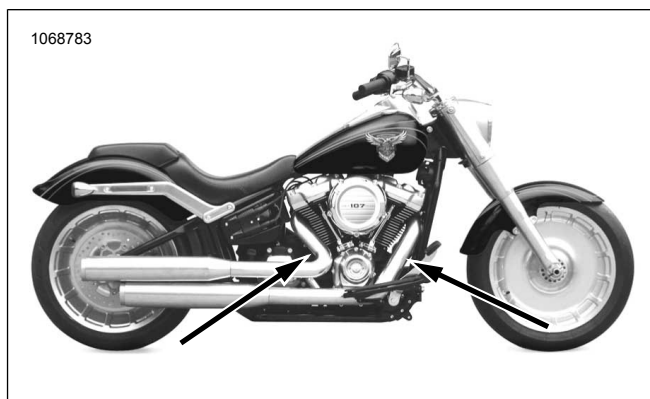

Figure 22. Oxygen Sensor Locations (Inboard Side of Exhaust Pipes)
See Figure 22, Figure 52 and Table 5 Install wide band oxygen sensors (2). Using Oxygen Sensor Socket (Part No. HD-48262-A) tighten to: